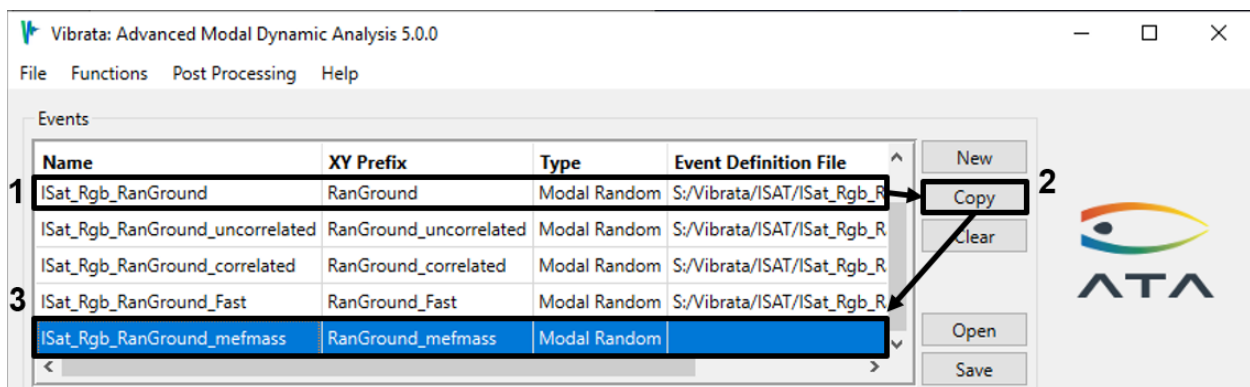

Figure 4-71. Copy the original rigid-base event; the new one will exclude modes with negligible effective mass.
1. In the Event Manager, copy the event from section 4.3.2 using the **Copy** button and then assign a new name to the new event (Figure 4-71).